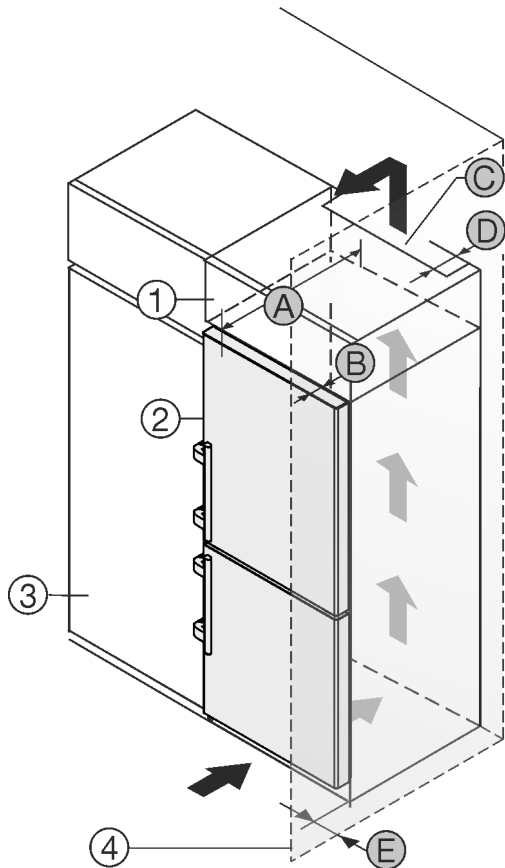

Fig. 47
The appliance can be built into kitchen units. A top cupboard *Fig. 47 (2)* can be added above the appliance in order to bring the appliance *Fig. 47 (1)* up to the height of the fitted kitchen units.
The appliance can be installed right next to the kitchen cabinet *Fig. 47 (3)*. The appliance must protrude by depth *Fig. 47 (B)* from the front of the cabinet so that the doors can be opened fully. The appliance may protrude further depending on the depth of the kitchen cabinets and whether wall spacers are used.
- At the back of the top cabinet, there must be an air outlet shaft with depth *Fig. 47 (D)*, spanning the entire width.
- The ventilation shaft *Fig. 47 (C)* must be observed under the ceiling.
If the appliance is installed with the hinges next to a wall *Fig. 47 (4)*, the distance *Fig. 47 (E)* between the appliance and the wall must be observed. This is how far the handle protrudes when the door is open.